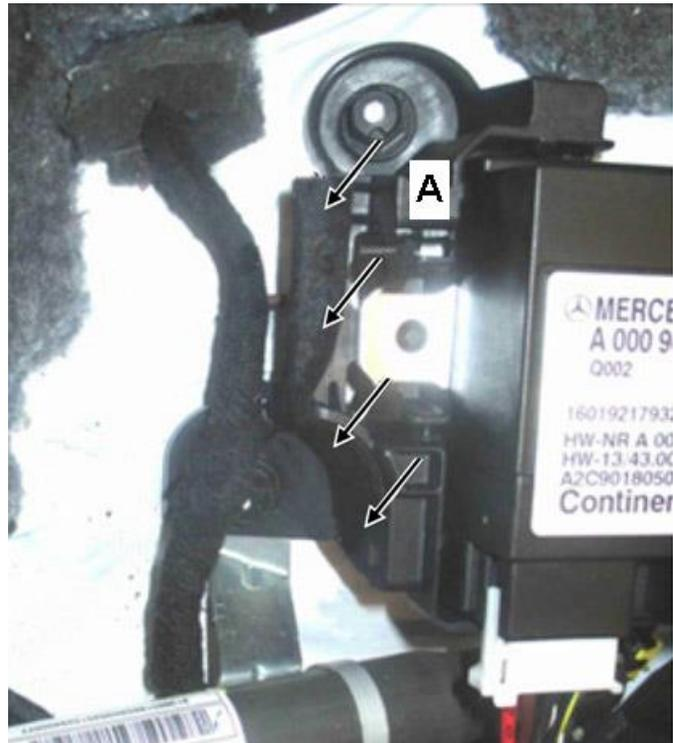

Figure 4
5. Cover edge of fuel pump control module mounting bracket (A, Figure 4) with felt tape (arrows).